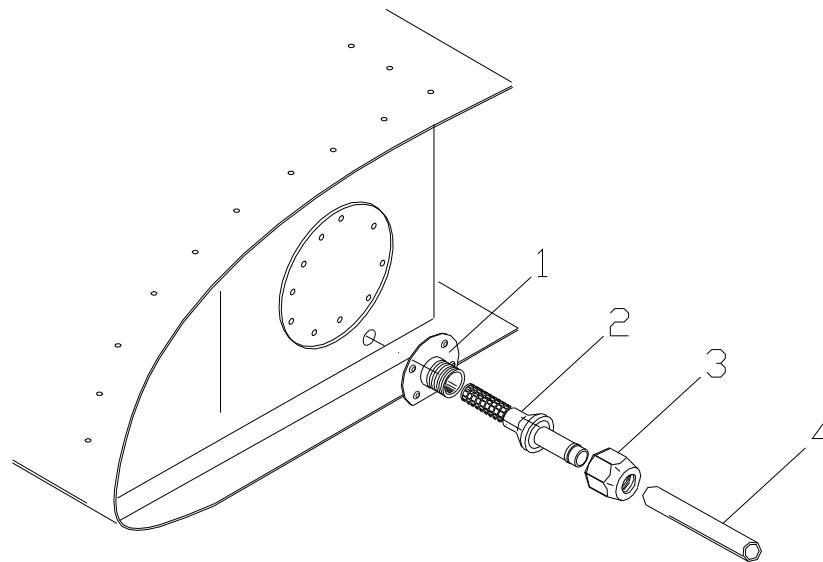

FIGURE E-2 *TANK OUTLET AND FILTER*
Fuel outlet is located at the lowest point of the inboard sidewall of each fuel tank and is equipped with a standard mesh filter (2) (see Fig. E-2). To carry out periodic cleaning of mesh filter (2), it is necessary to remove the hose (4) after releasing nut (3).